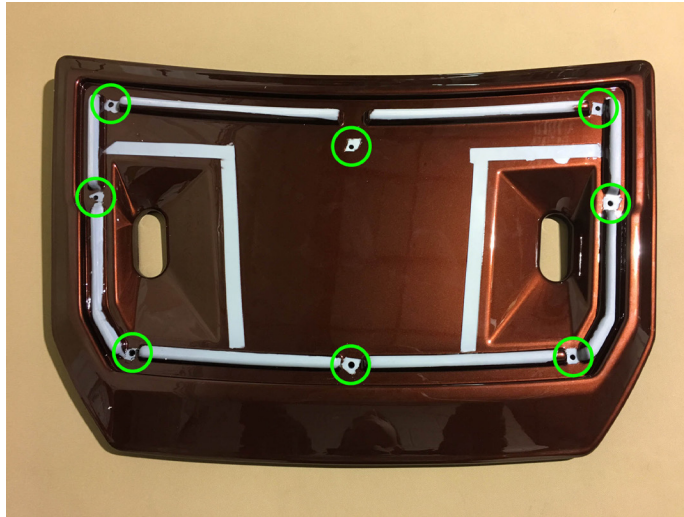

Figure 4
5. Drill dimpled hole locations with a 1/4" drill bit. (Figure 4)